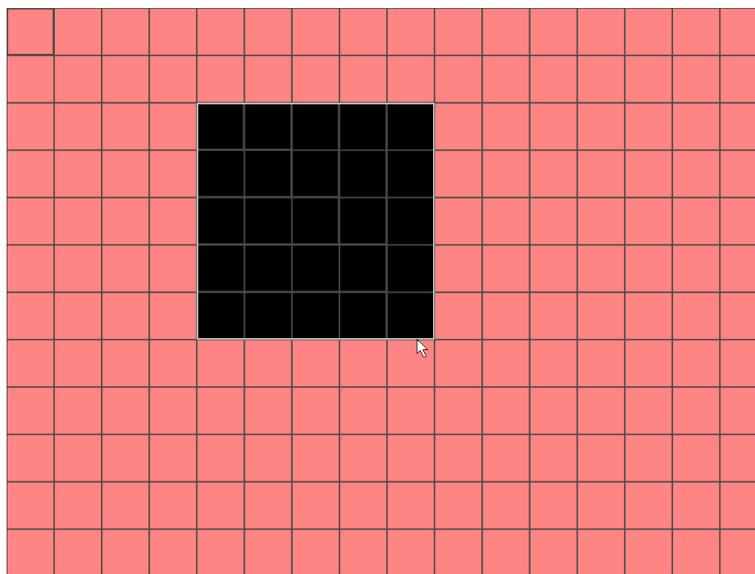

Figure 4.12
- ✓ **[Region]** Click setup; enter the settings area is divided into 16X12 blocks, red area for motion detection fortified area. The white area is undefended, Settings area. Hold down the left mouse button, draw settings area. See Figure 4.12 (By default the entire area selected for monitoring area).